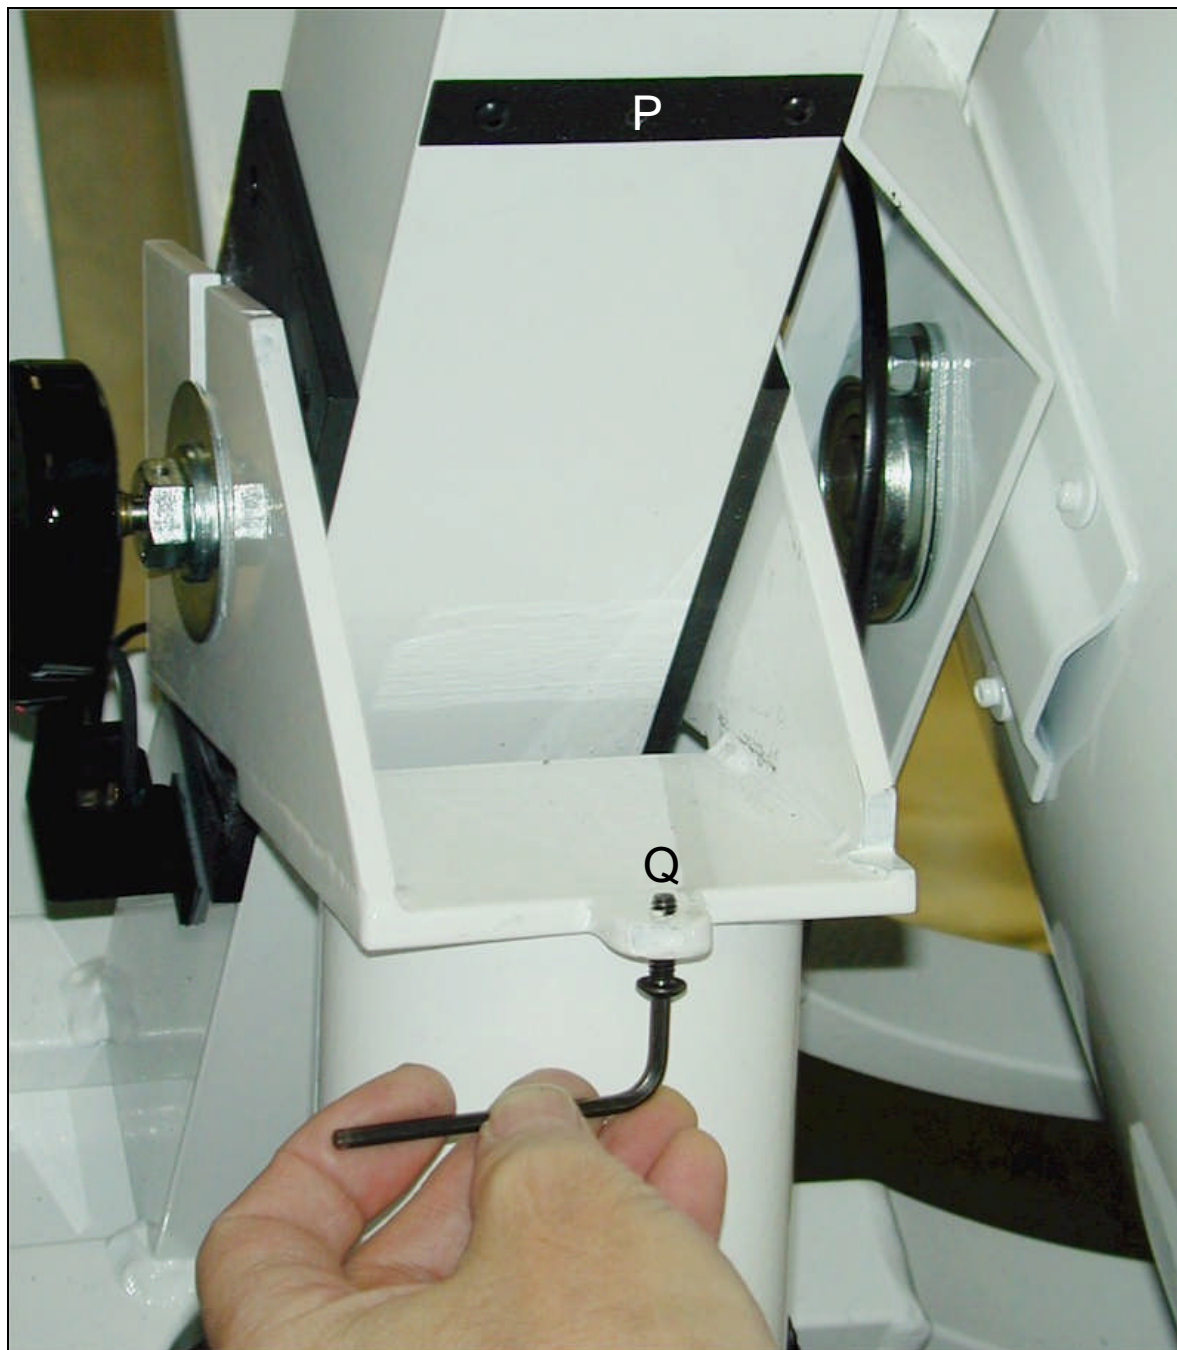

Figure 13
Most computer guiding systems have an initial alignment position that is either vertical or horizontal with respect to the base. The RB16 uses a vertical initialization (see Figure 13). When you slowly push the scope to vertical it will stop when the plate (P) touches the screw (Q). **Be careful not to bang the scope against this stop as it could bend and corrupt the position.** This screw has been set at the factory for the scope to be at vertical upon contact. If you ever feel that this adjustment is in error, you can change it using an Allen wrench as shown.